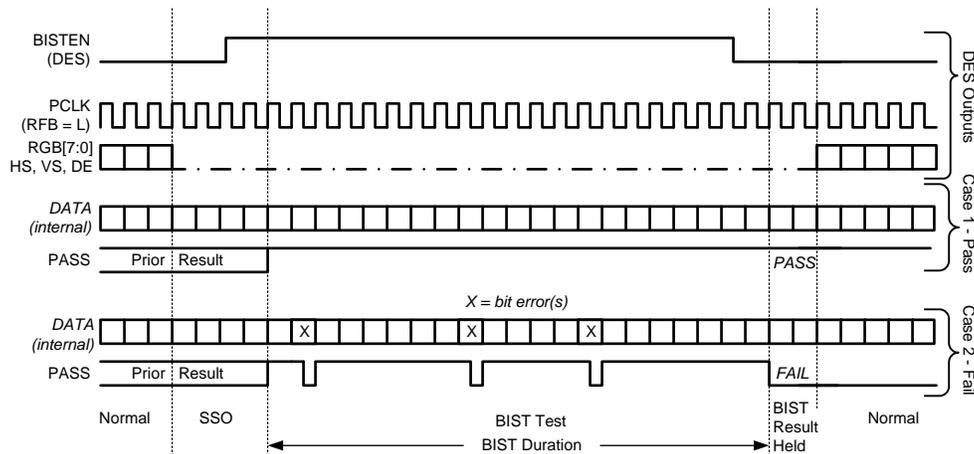

Figure 17. BIST Waveforms
**Step 4:** The Link returns to normal operation after the deserializer BISTEN pin is low. Figure 17 shows the waveform diagram of a typical BIST test for two cases. Case 1 is error free, and Case 2 shows one with multiple errors. In most cases it is difficult to generate errors due to the robustness of the link (differential data transmission etc.), thus they may be introduced by greatly extending the cable length, faulting the interconnect, reducing signal condition enhancements (Rx Equalization).